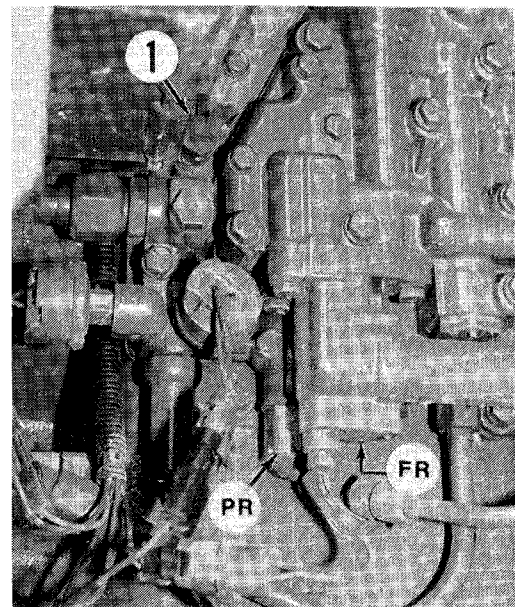
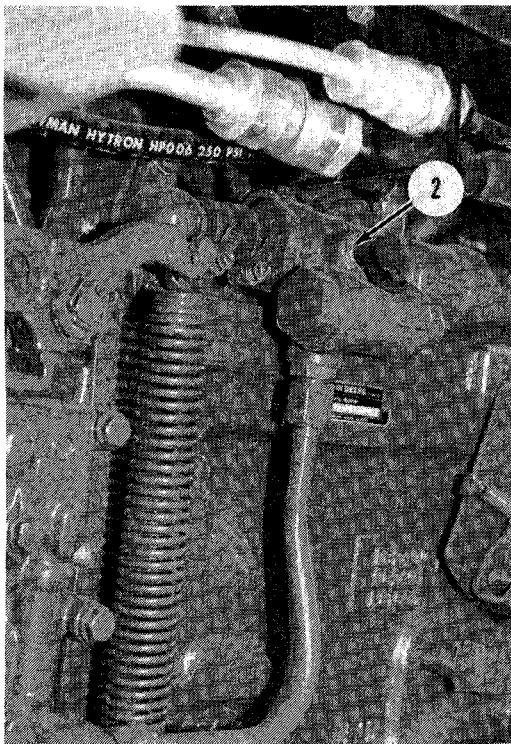

Fig. 145—To check Power Shift transmission system pressure, install a 0-300 psi (0-2000 kPa) pressure gage at traction clutch valve test port (1).
Fig. 146—To check Power Shift transmission lube pressure, install a 60 psi (400 kPa) gage at return oil manifold test port (2).
Connect a 300 psi (2000 kPa) pressure gage at system test port (1—Fig. 145) on traction clutch valve housing. Place transmission in "Park" and operate engine at 2000 rpm. System pressure should be 170-180 psi (1170-1240 kPa). If pressure is not within specified limits, remove pressure regulator valve plug (PR) and add or remove pressure regulator valve shims (35—Fig. 157). Each shim will change pressure approximately 5 psi (35 kPa).
Connect a 300 psi (2000 kPa) gage at system test port (1—Fig. 145) on traction clutch valve housing. Install a 60 psi (400 kPa) gage at lube pressure test port (2—Fig. 146) on the return oil manifold. Place towing disconnect lever in "TOW" position. Operate engine at 1000 rpm or adjust speed to obtain 10 psi (70 kPa) lube pressure.